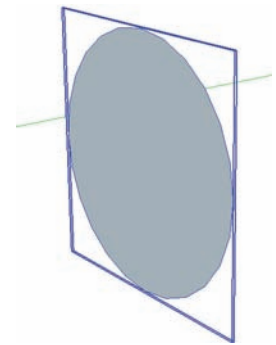

Fig. 8-13: Rotate the component to stand vertically.
5. Rotate the circle component so that it is standing directly vertical (Fig. 8-13).